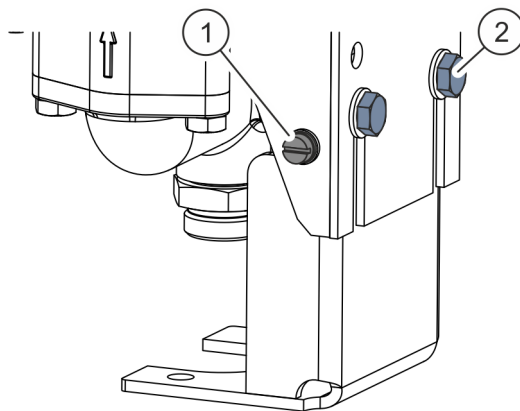

Fig. 7: Disassembly
- 8.** ➤ Disconnect the grounding with the grounding screw (Fig. 7/2).
- 9.** ➤ Disconnect the diaphragm pump by unscrewing the fastening screws (Fig. 7/1) from the wall or supporting structure.